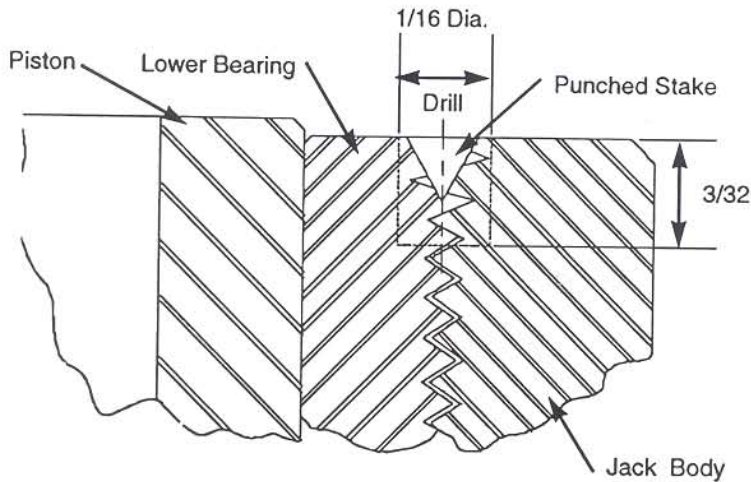

Figure 4
1. Drill out the punched stake and the deformed thread with a  $1/16$ " dia. drill to a depth of about  $3/32$ " in one shot (see Fig. 4). In case it is required to drill more than once, re-drilling deeper will possibly rotate the lower bearing. Care must be taken so that it does not rotate.